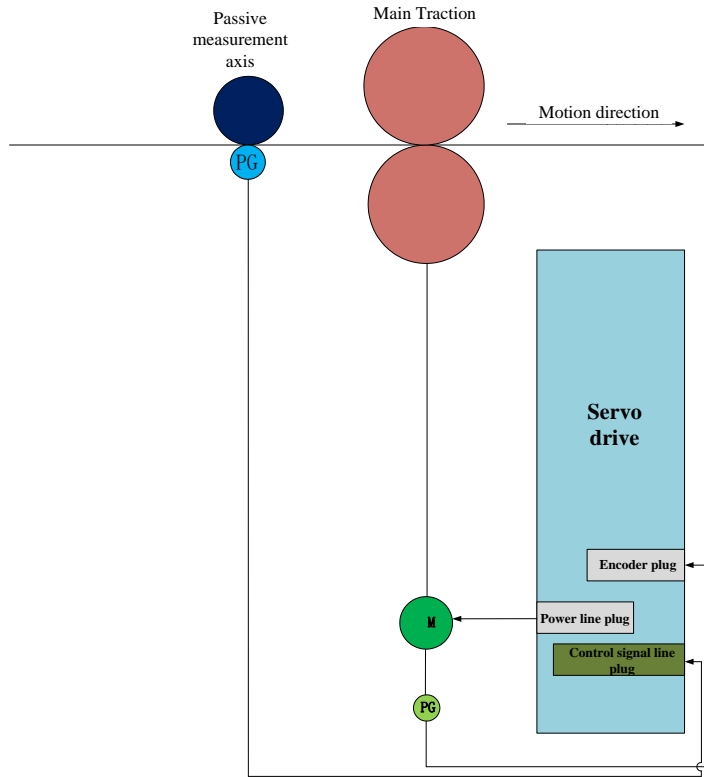
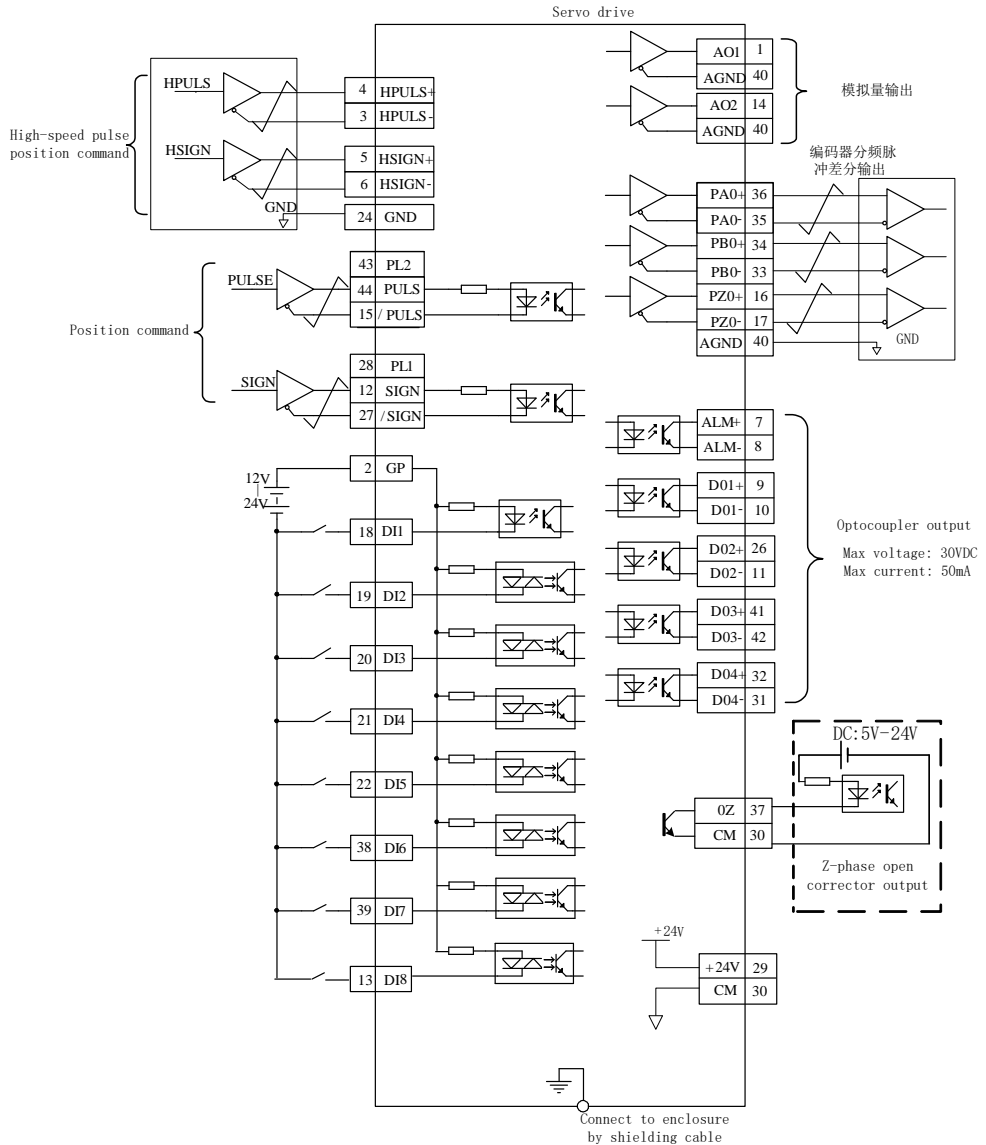

Fig 6.4.37 Full closed loop typical application sketch map
Fig 6.4.39 Full closed loop mode typical wiring diagram
- ★ Refer to the wiring instruction of Fig 6.4.37 or Fig 6.4.39, connectDI/DO ;